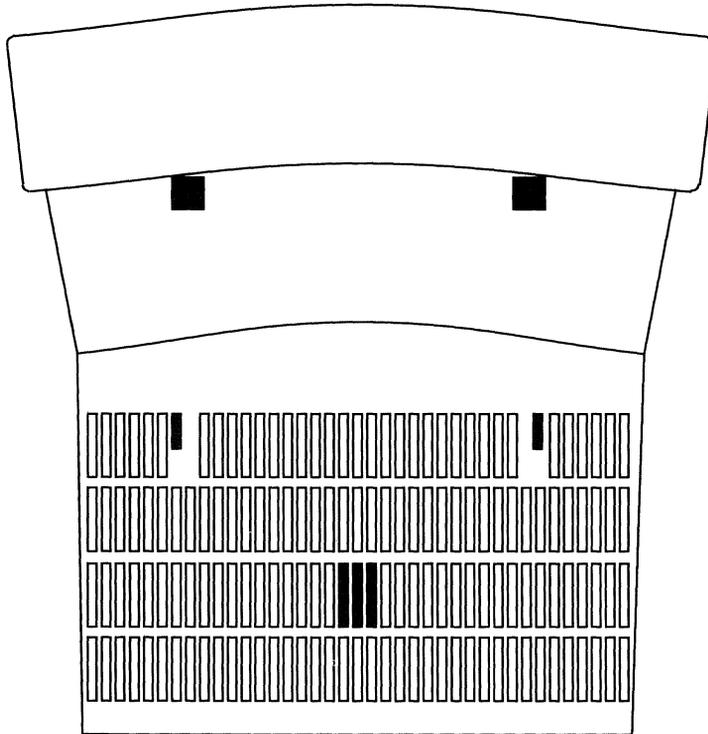

Figure 2-13. Display Monitor, Bottom View
1. Turn the display monitor upside down and rest it on a flat surface. Use care to avoid scratching the top of the NCD16. A bottom view of the display monitor is shown in Figure 2-13.